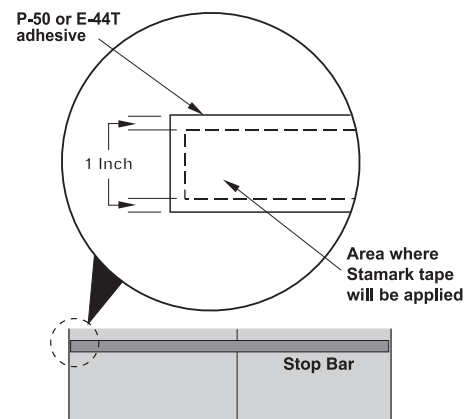

Figure 15.
- If using P-50 or E-44T for an intersection or and transverse making - including legends and symbols - evenly apply one coat of adhesive to the road surface using a solvent-resistant roller with a minimum 3/8-inch (2.0 cm) nap. The coating on the pavement must extend at least 1 inch (2.5 cm) beyond the premarked area. (See Figure 15.)